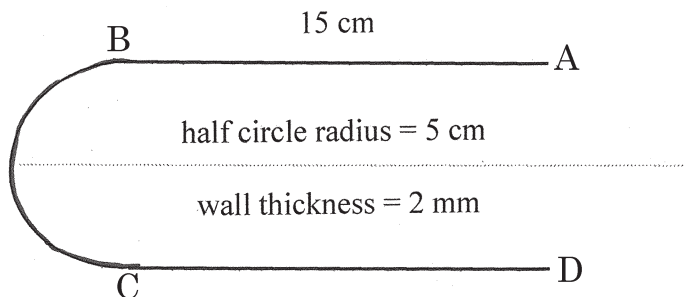

Figure 4
- b) The section indicated in Figure 4 is subject to $V_y = 18$ kN. Derive and obtain expressions for shear flow in the horizontal and curved portions. Obtain and mark the shear centre position.